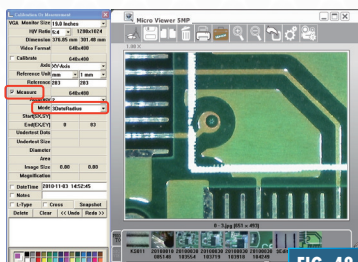

FIG. 48
3. Select the "3DotRadius" Mode (Fig. 48).